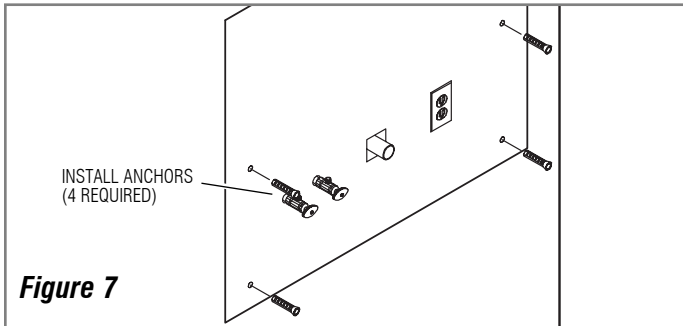

Figure 7
Step 5 — Install Anchoring Hardware (Figure 7)